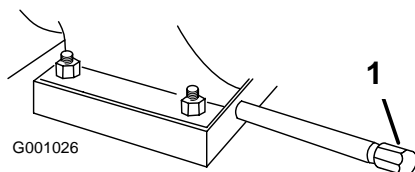

Figure 50
1. Clean the area around the oil drain cap (Figure 50).